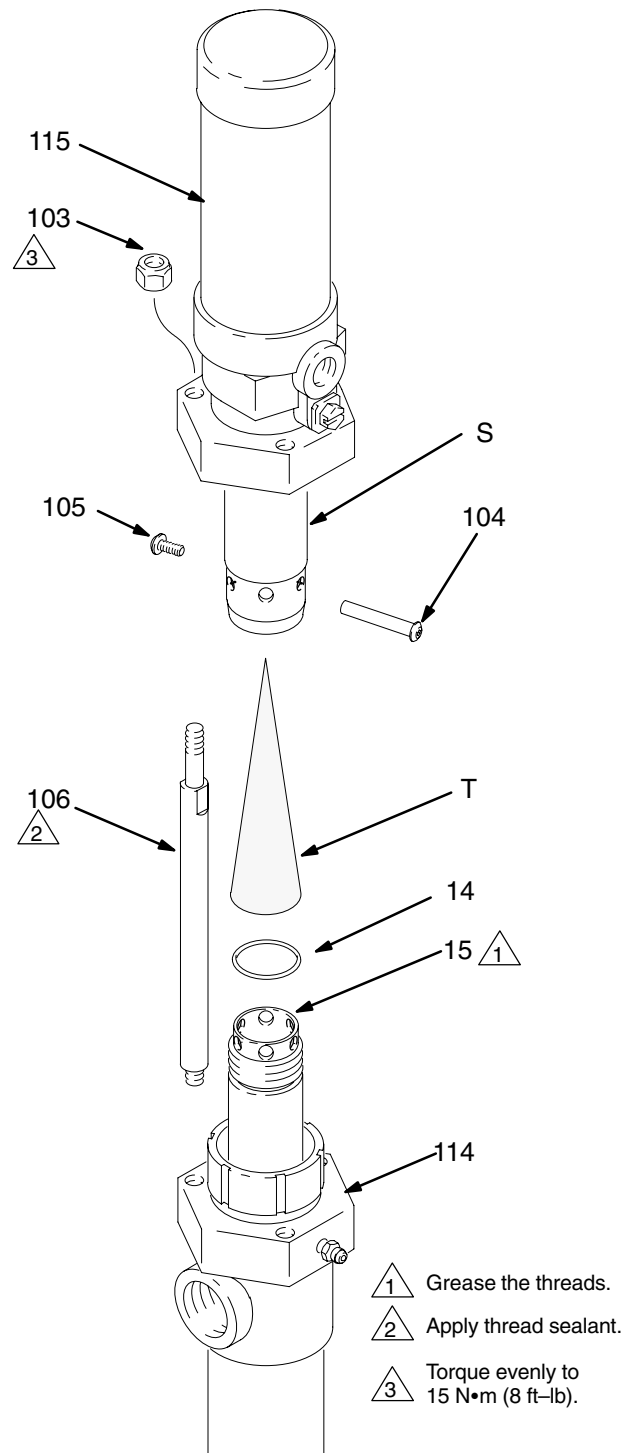

Fig. 6
3. See Fig. 6. Unscrew the tie rod locknuts (103).
4. Unscrew and remove the screw (105) and barrel (104).
5. Raise the air motor (115) away from the displacement pump (114). Unscrew the displacement rod (15) from the air motor connecting rod (S).
1. When reconnecting the air motor, use lithium base grease on the threads of the displacement rod (15). Make sure the o-ring (14) is in place on the rod.
2. Insert the muffler (T) into the air motor connecting rod (S) as shown in Fig. 6.
3. Tighten the displacement rod (15) into the air motor connecting rod hand tight, and install the barrel and screw set (104 and 105).
4. Apply thread sealant to the threads of the tie rods (106). To ensure proper alignment, first thread the tie rod locknuts (106) loosely onto the tie rods, then torque evenly to 15 N•m (8 ft–lb).